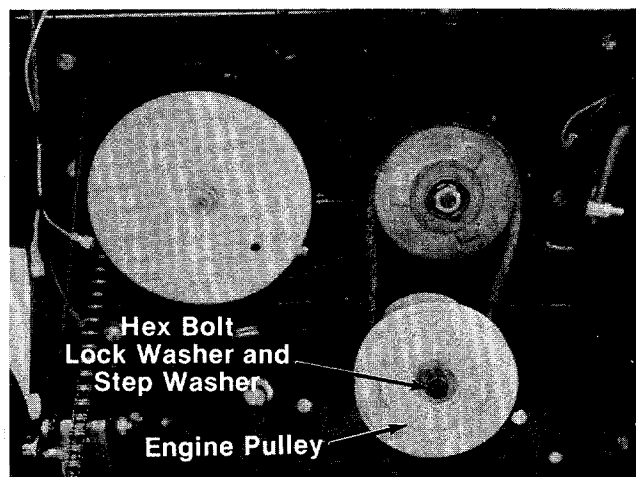

FIGURE 41.
2. Depress the clutch pedal and lock it. Remove the engine pulley by removing the hex bolt, lock washer and step washer shown in figure 41. A 9/16" wrench is required.